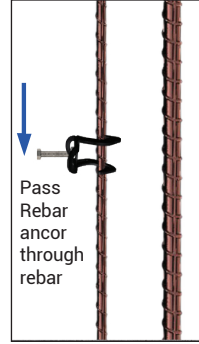

Figure -2
- » OD-RB-44 is passed through the rebars (Figure-2)